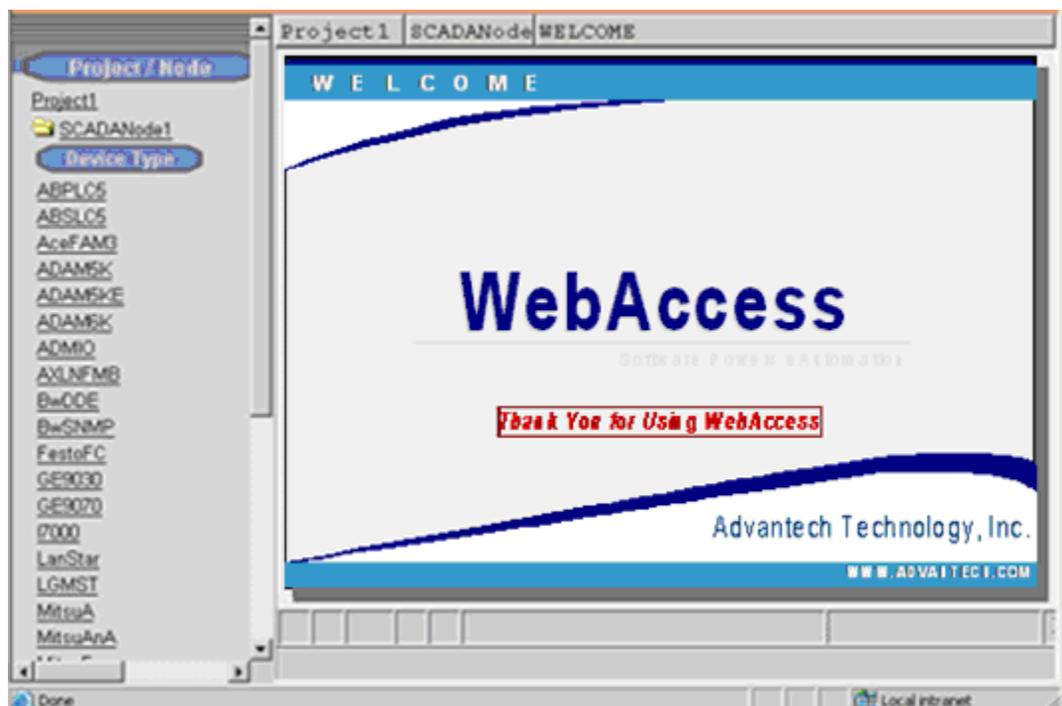

Figure 4-39 - Login page, start VIEW – from Project Manager
- Welcome to Advantech WebAccess Login appears (Figure 4-39) if the Client is installed.